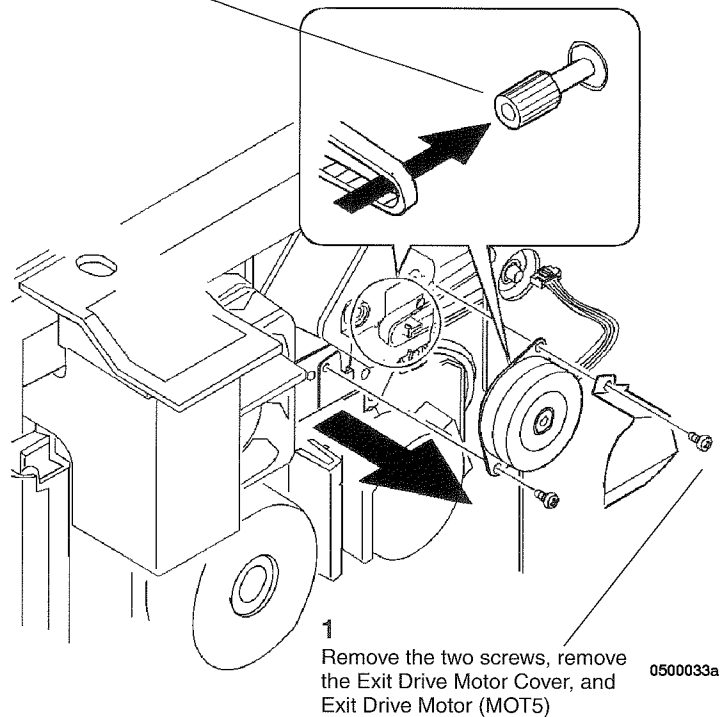

Figure 4 Removing the Exit Drive Motor (MOT5)
5. ( Figure 4): Remove the Exit Drive MOtor (MOT5).